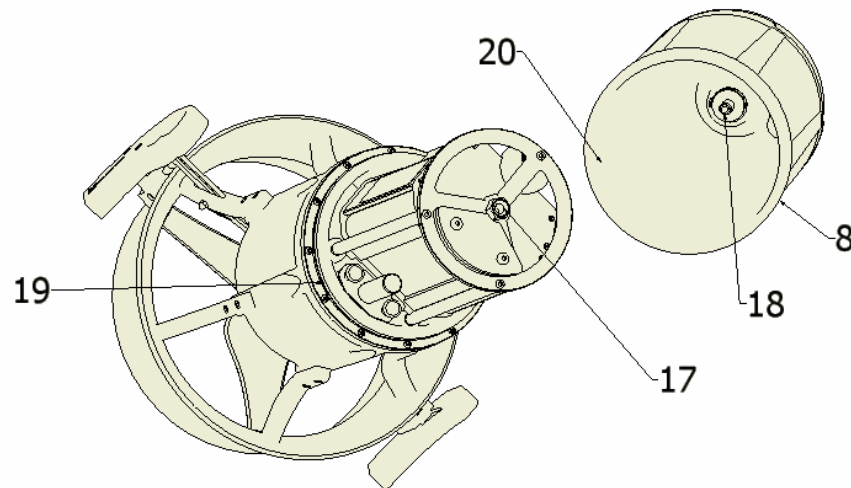

Figure 6
Note: always rinse, accurately clean and dry the HDV before opening it. Sand or mud can enter the OR housing (19) (see fig. 6) and jeopardize the perfect hermetic seal.
Stand the propeller protection on a level surface. Carefully check that the lock O-ring (19), (see fig. 6) is properly seated and that it is clean and suitably greased with silicone oil (the one commonly used for underwater gear). Check that the rim of the body (20), is clean, and if necessary pass a clean cloth to remove any dust or sand. Insert the front shell (8) matching the screw (18) up with the hole (17). Turn the wheel (9) clockwise until it closes completely and tighten using only two fingers.